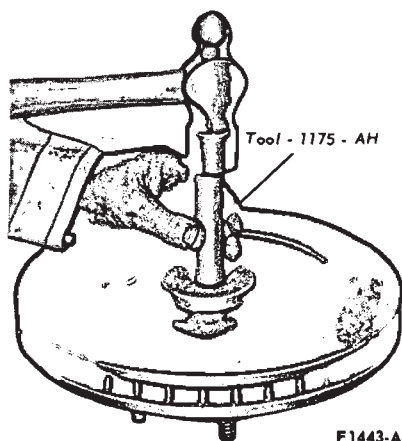

FIG. 8—Installing Grease Retainer—Disc
14. Place the inner bearing cone and roller assembly in the inner cup. Apply a light film of grease to the lips of the grease retainer and install the new grease retainer with the tool shown in Fig. 8. **Be sure the retainer is properly seated.**